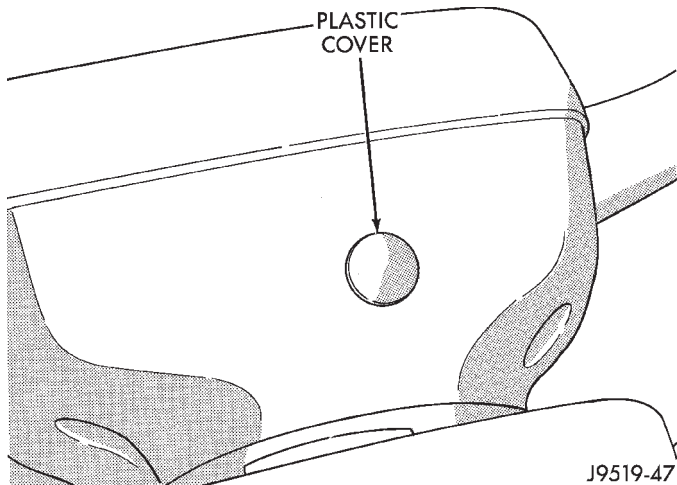
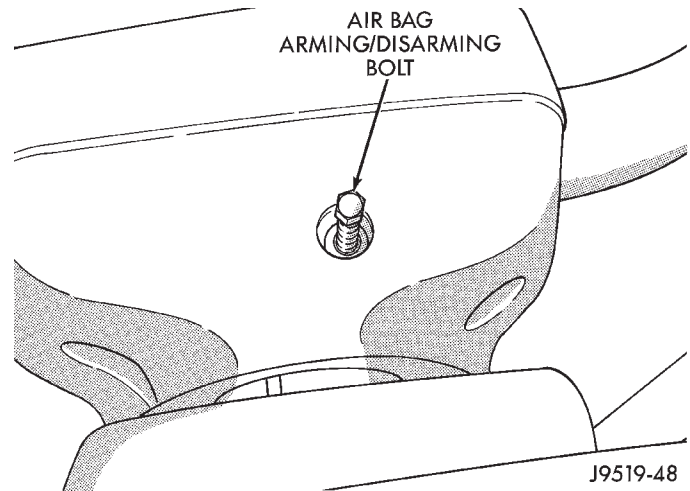

Fig. 2 Plastic Cover Plug for Airbag Arming/Disarming Bolt
Fig. 3 Arming/Disarming Bolt
- (1) Disconnect battery negative cable and isolate.
- (2) Using a small screwdriver, remove plastic cover plug from top outer surface of steering wheel hub (Fig 2). Exit vehicle and disarm airbag by reaching through driver's side window and turning arming screw counter-clockwise to its travel limit (Fig 3 and 4). This is done using an 8mm socket and manual drive. **DO NOT USE POWER-DRIVEN TOOLS.**